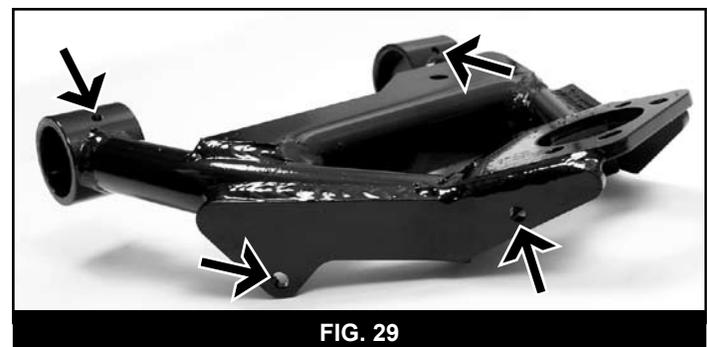

FIG. 29
57. Install the provided $\frac{1}{4}$ " grease zerks from bolt pack #515 in the two thread holes located on the top side of the control arm pivots (Fig. 29).